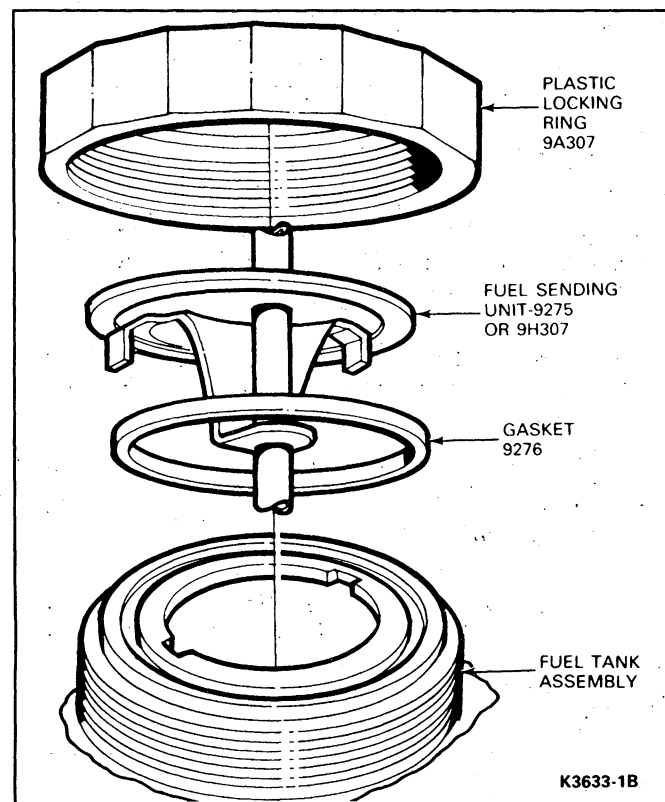

FIG. 16 Fuel Tank Sender Installation (Plastic Locking Ring Type)—F-350 and F-Super Duty Chassis Cab
5. Turn the fuel sending locking ring counterclockwise with a band-type oil filter wrench or equivalent. Remove the locking ring fuel sender and sealing gasket (Fig. 16).
2. Place a new sealing gasket in the groove of the fuel tank. Install the fuel sender into the fuel tank so that the tabs of the sender are positioned into the fuel tank slots. The sealing gasket must remain in place during and after fuel sender installation (Fig. 16).